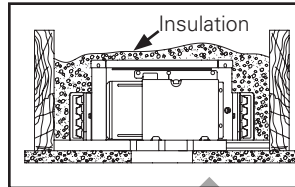
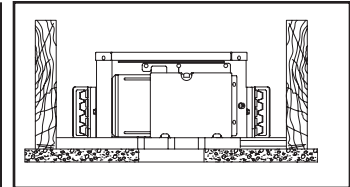

Figure 1.
Figure 2.
- IC Platform: The P3LED09 housing platform is designed for both installations where the housing comes in direct contact with insulation (Figure 1.) and installations where the housing platform does not come in contact with insulation (Figure 2.).